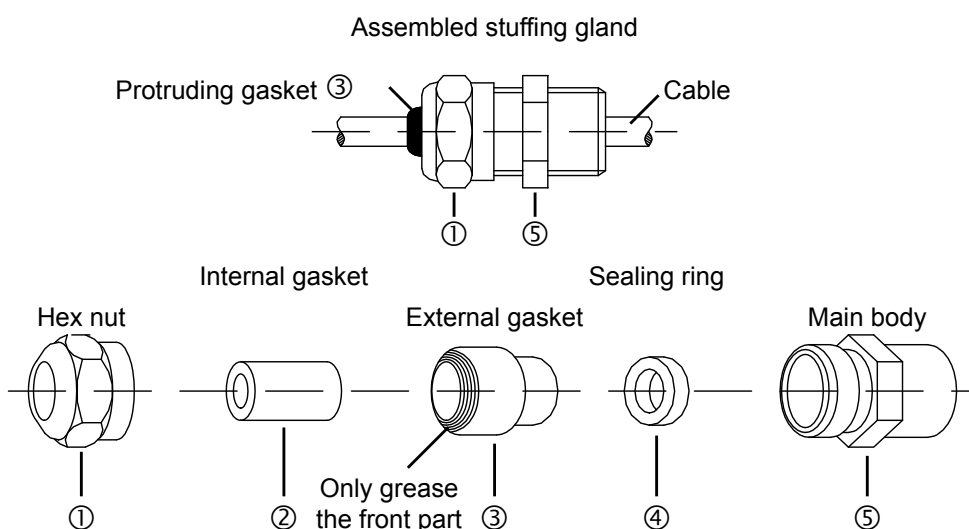

Fig. 2–2 Stuffing gland (overall and exploded view)
3. Pass the cables through the stuffing glands as shown on *figure 2–2* :
- a. Unscrew the hex nut ① by rotating it counterclockwise. The main body of the stuffing gland ⑤ should not be removed from the unit's housing.
- b. Extract the internal ② and external gasket ③ from the hex nut ①. Both gaskets are used to compensate for the different cable diameters. Push the internal gasket ② to extract it from the external gasket ③.
- c. Pass the cable through the hex nut ①, the internal gasket ② (when used), the external gasket ③, the sealing ring ④ and the main body ⑤.
- d. Reassemble the stuffing gland and coat the front part of the external gasket ③ with silicone (see *figure 2–3*) before screwing the hex nut ① onto the main body ⑤. Tighten the hex nut ① in such a way that the internal gasket ② and/or the external gasket ③ protrudes, so as to provide the degree of watertightness required.